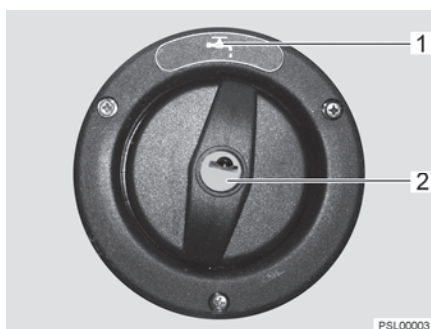

Fig. 138 Cap for the drinking water filler neck
The drinking water filler neck is indicated by the symbol "🚰" (Fig. 138,1). The cap is opened and closed using the key for the external flap locks.
- Insert key into locking cylinder (Fig. 138,2) and turn a quarter turn in an anticlockwise direction.
- Open drinking water filler neck (Fig. 138).